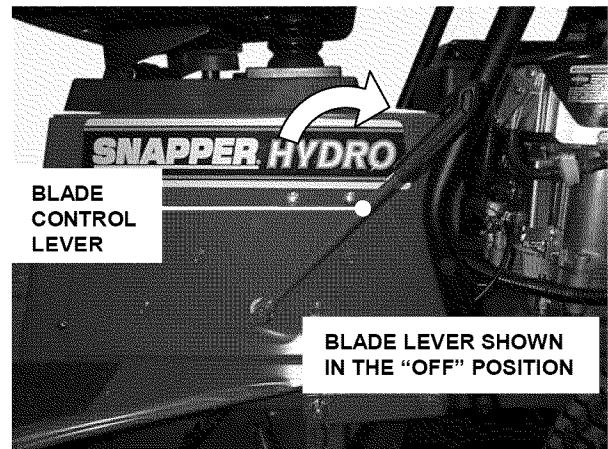

FIGURE 2.5
4. Move blade control lever back to the "OFF" blade disengaged position. See Figure 2.5.
3. Move blade control lever back to the "OFF" blade disengaged position. See Figure 2.5.